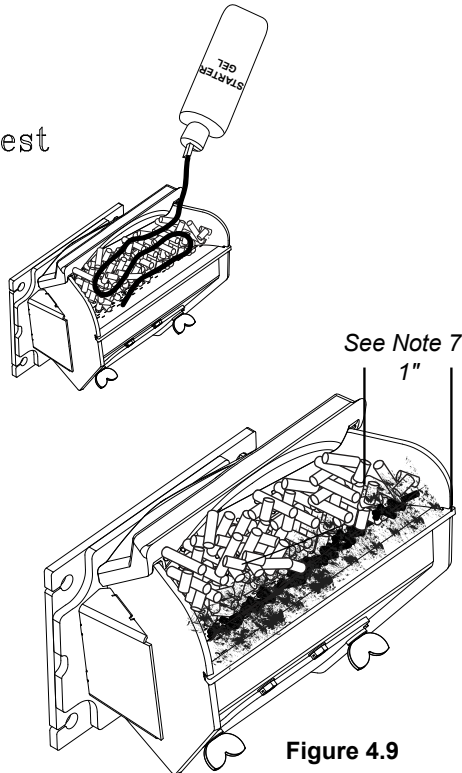

Figure 4.9
5. **Setting the feed adjuster # for maximum burn:** *With the unit burning in "AUTO", turn to "Stove Mode" and put the fan on "H". Set the Temperature Dial to #7. Allow the unit to burn for about 30 minutes and check ash on front of burn pot. Figure 4.9. If the ash line is larger than 1", turn the feed adjuster from #4 to #5. Allow another 30 minutes of burn time and check again. If , at #6 setting, a 1" or less ash bed is not obtainable, it is not a problem. The 1" ash bed is only at maximum burn rate and during normal operation, the ash bed will be larger.*